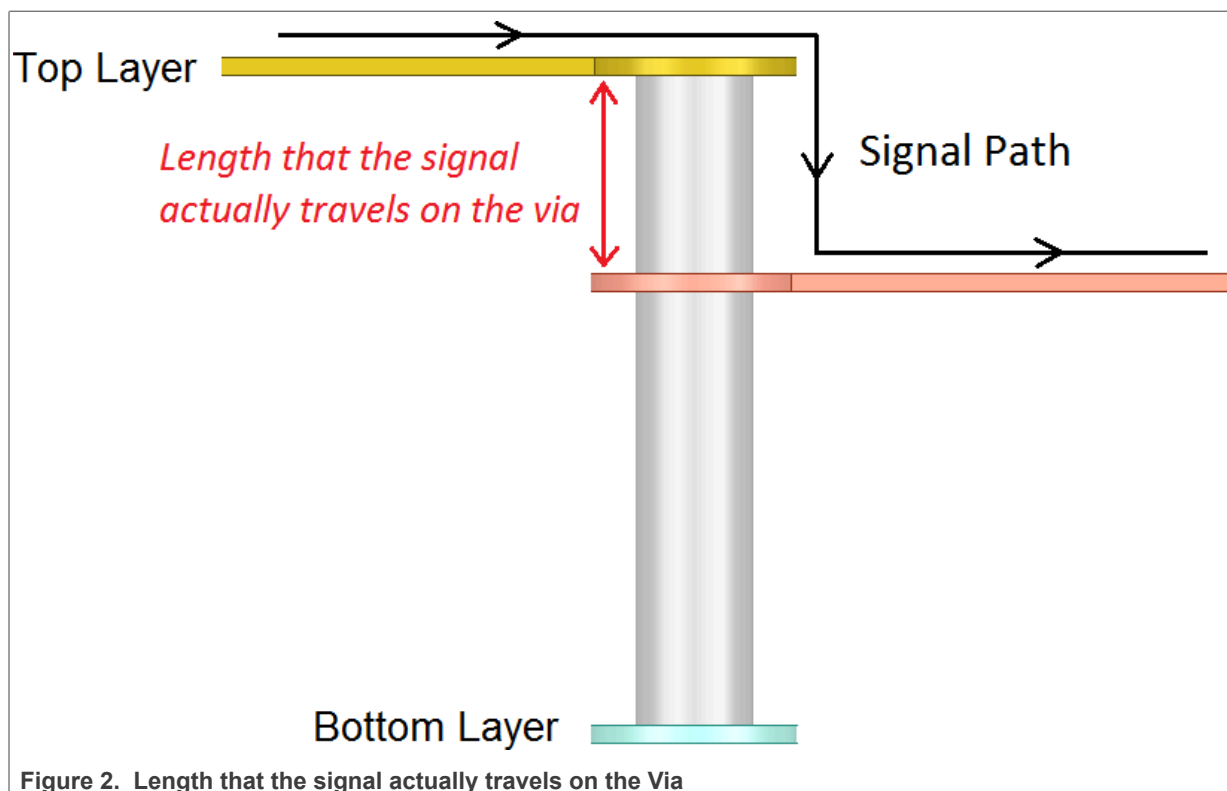

Figure 2. Length that the signal actually travels on the Via
- b. Place at least one ground stitching via within 50 mils of signal via when switching reference planes to provide continuous return path and reduce crosstalk. If it is not possible to place enough ground stitching vias due to space limitation, try to make the length that the signal actually travels on the via as short as possible, as illustrated in Figure 2. The i.MX 93 is optimized to use layer 1 and layer 3 for all single-ended traces. The differential traces, CLK, DQS0,1 are often routed on the bottom layer. These require the stitching GND vias. The EVK reference design demonstrates this method.